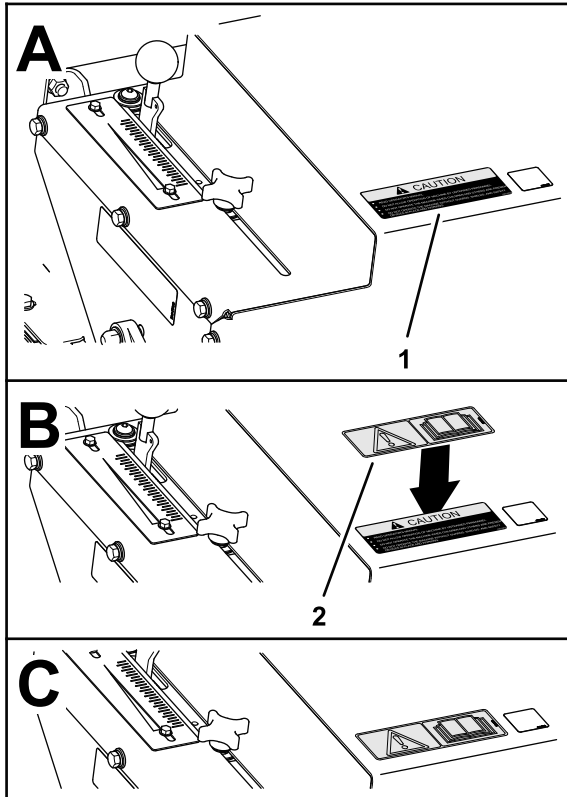

Figure 3
1. Clean the surface of the caution decal (Figure 3).